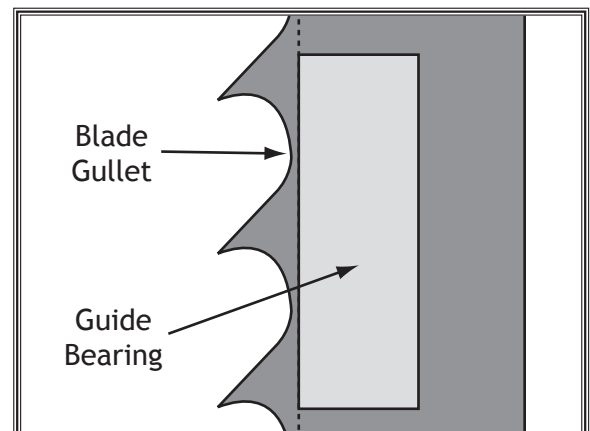

Figure 32. Guide bearing positioned behind the blade gullets.
5. Rotate the knurled knob behind the blade guide bearings to position them so that the edges of the bearings are as forward as possible without going past the gullets (see the illustration in **Figure 32**).